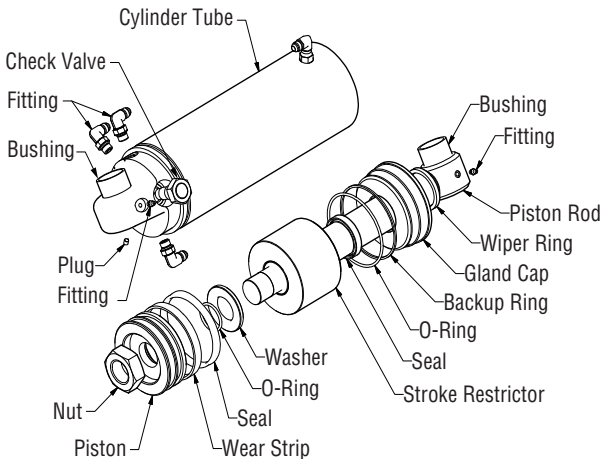

Figure 5-35, Cylinder Assembly
5. Remove the piston retaining nut and remove the piston. (Figure 5-35)